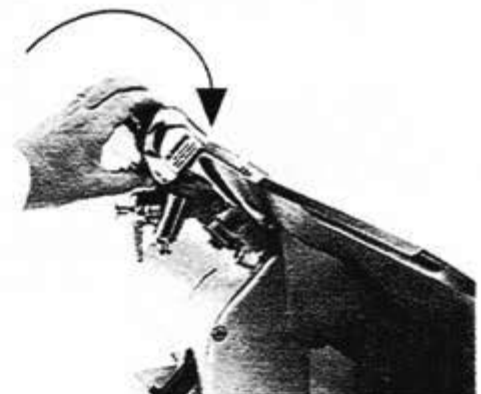

Figure 21-3
5. Close sharpener cover. (Fig. 21-3)